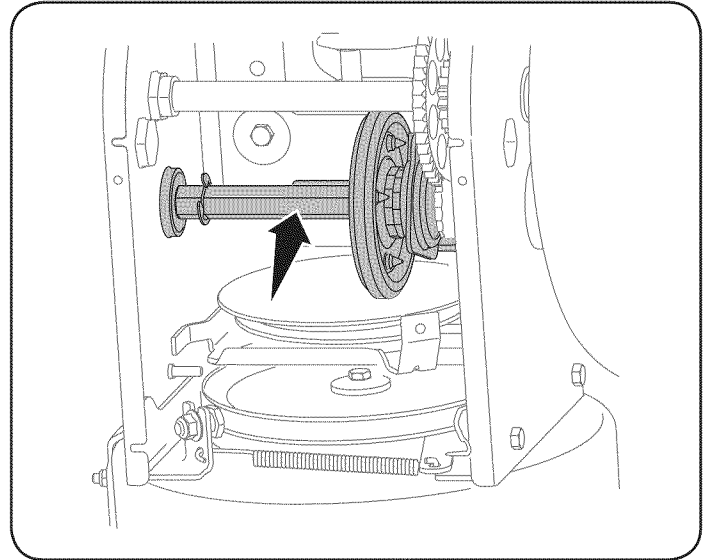

Figure 18
4. Apply a light coating of engine oil (or 3-in-1 oil) to the hex shaft. See Figure 18.